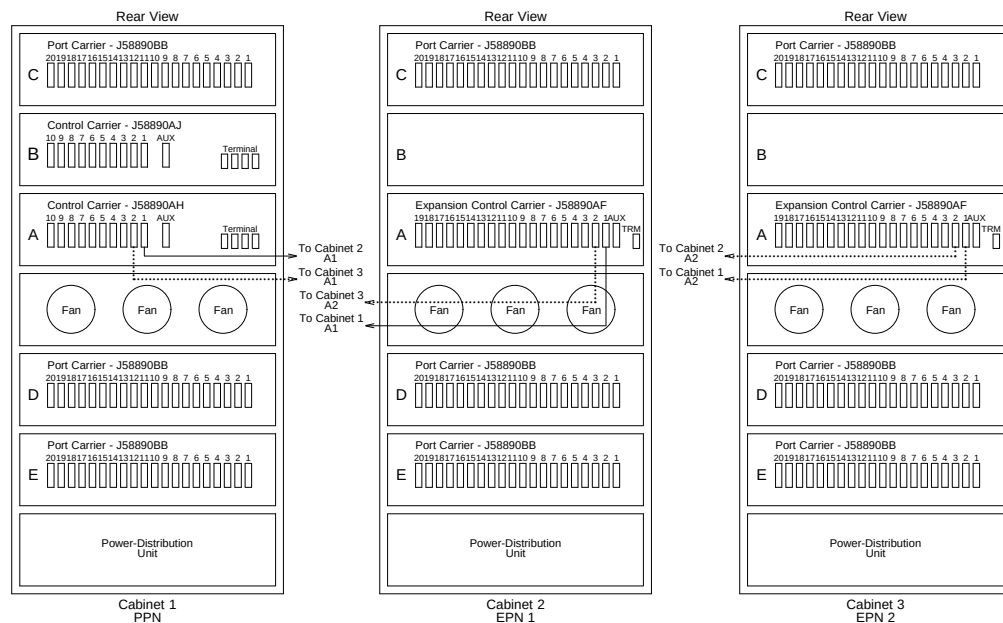
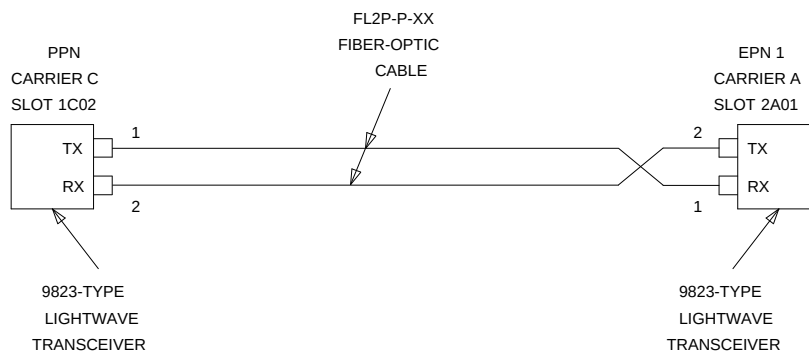
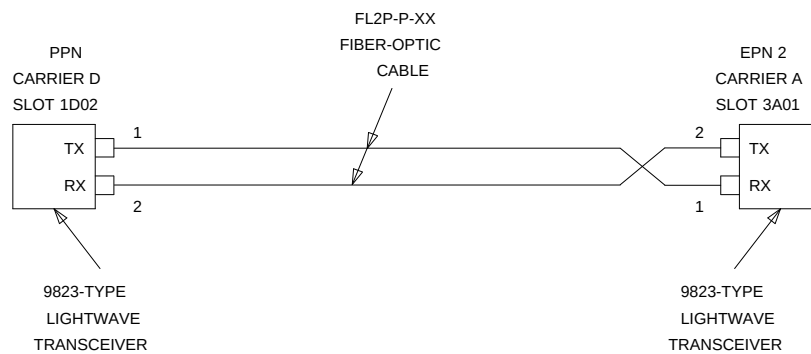
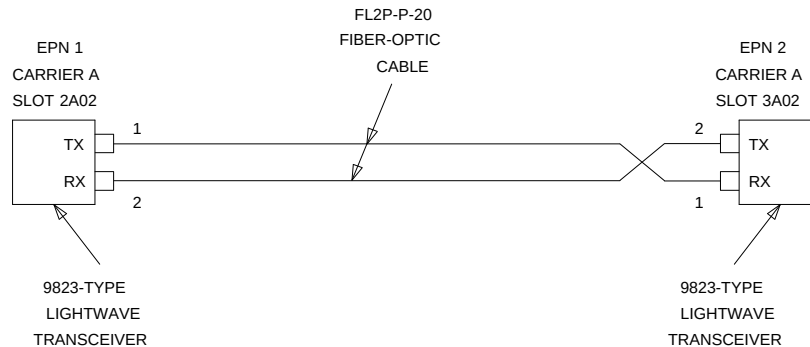

Figure 7-25. High-Reliability DEFINITY ECS Release 5 with Two or Three Port Networks
Figure 7-26. Fiber-Optic Connections PPN to EPN1
Figure 7-27. Fiber-Optic Connections PPN to EPN2
Figure 7-28. Fiber-Optic Connections EPN1 to EPN2
The connectors on the lightwave transceivers are labeled either "TX" (transmit) or "RX" (receive), while the fibers attached to each connector are numbered either "1" or "2." A viable fiber connection is only made when both fibers in each cable (that is, "1" and "2") route from the "TX" connector of a port network to the "RX" connector of its adjacent port network. For an example, refer to Figure 7-26 on page 7-62.
1. Behind control carrier A of PPN cabinet 1 (see Figure 7-25 on page 7-61, Figure 7-26, Figure 7-27, and Figure 7-28):